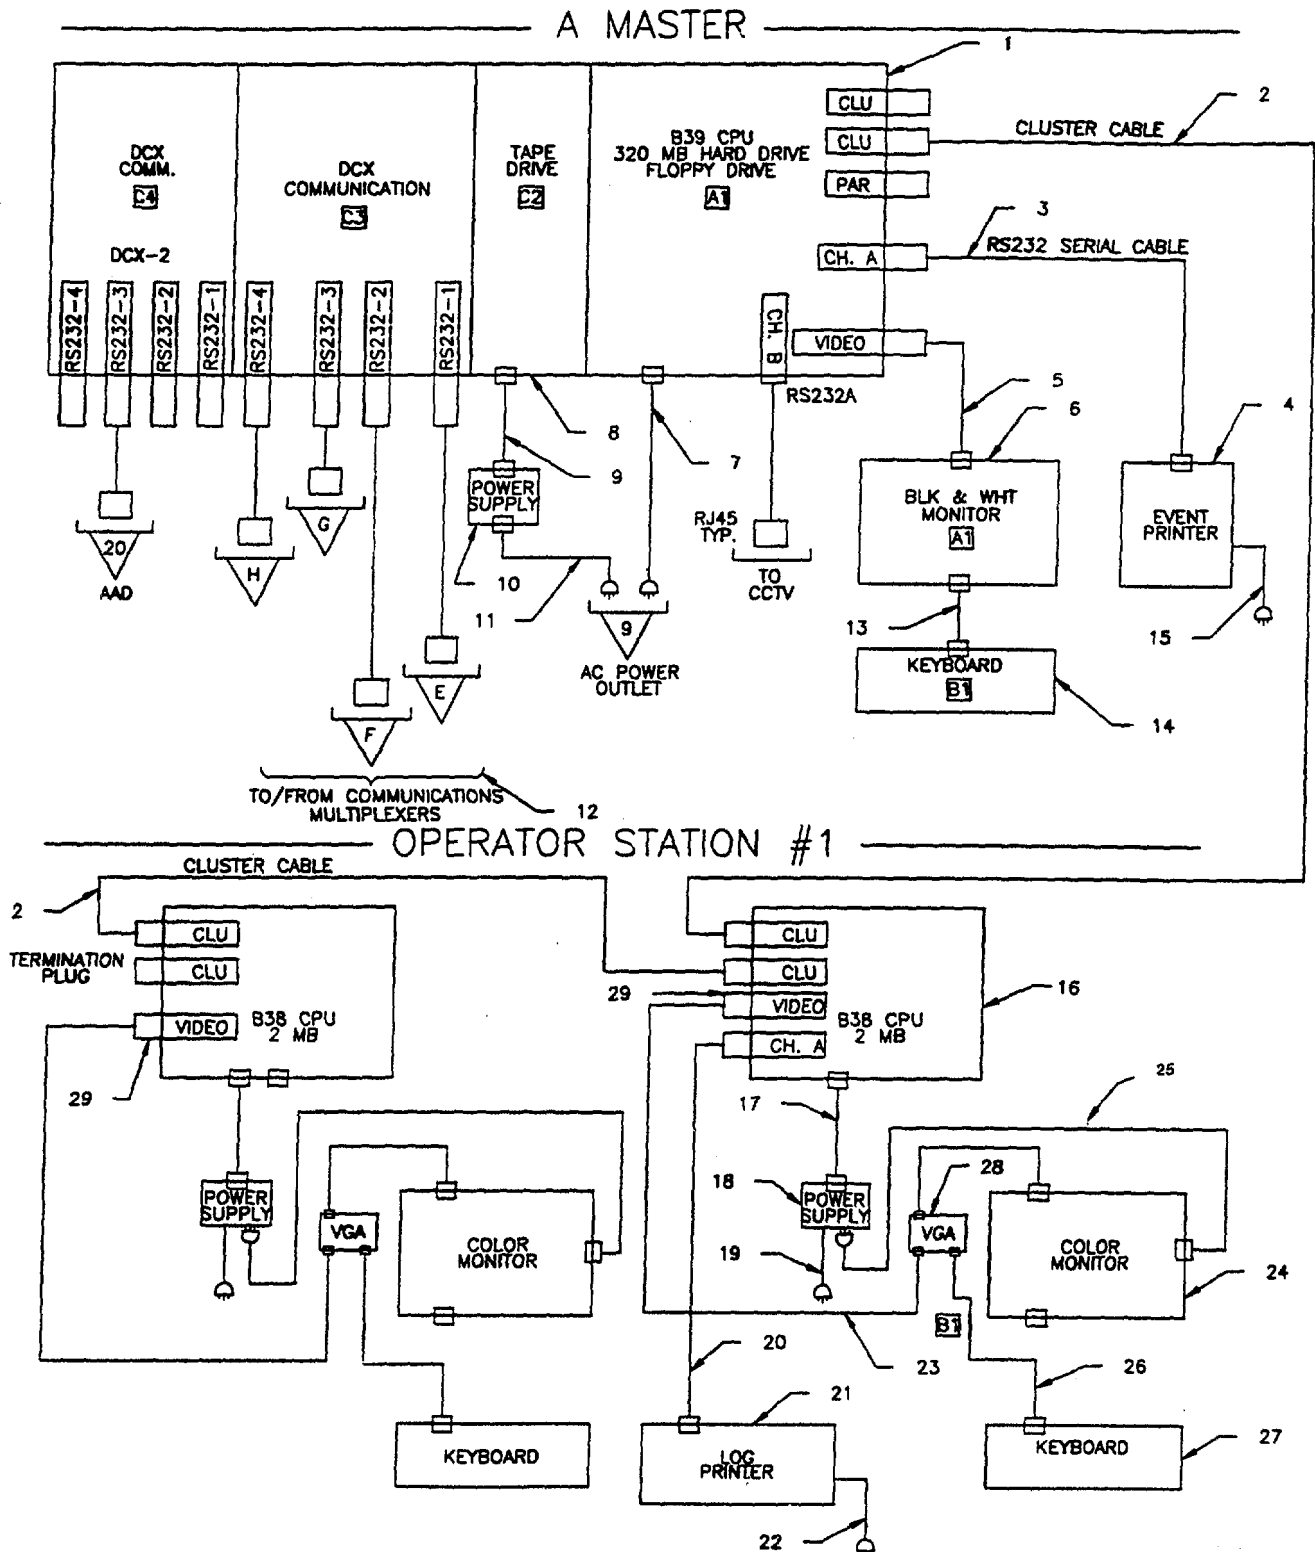

Figure 3-2. B39 CPU and B38 Workstation General Block Diagram
5. PMC MONOCHROME MONITOR SCREEN IS DARK (Figure 3-2)
6. PMC CPU CANNOT DOWNLOAD OR UPLOAD DATA TO TAPE STREAMER (Figure 3-2)
7. B39 KEYBOARD INOPERATIVE (Figure 3-2)
8. B38 WORKSTATION WILL NOT POWER UP (Figure 3-2)
9. B38 WORKSTATION(S) CANNOT COMMUNICATE WITH THE B39 CPU (Figure 3-2)
Step 1. Check each B38 workstation (16) separately to see whether it can communicate with B39 CPU (1).
10. WORKSTATION KEYBOARD INOPERATIVE (Figure 3-2)
11. WORKSTATION MONITOR SCREEN IS DARK (Figure 3-2)